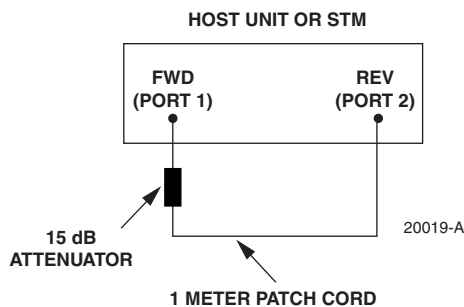

Figure 4-4. Host Unit and STM Loopback Test
5. Plug a 15 dB in-line optical attenuator into the FWD (PORT 1) optical port as shown in Figure 4-4.